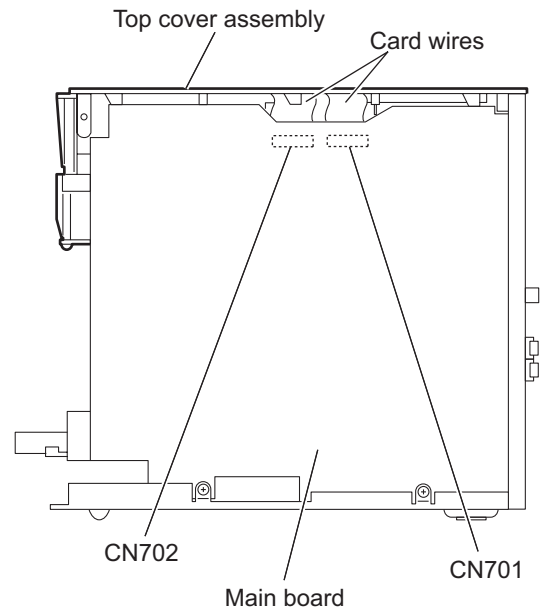

Fig.10
- (2) From the right side of the main body, disconnect the card wires from the connectors (CN701, CN702) on the main board. (See Fig.10.)
- (3) Take out the top cover assembly from the main body.